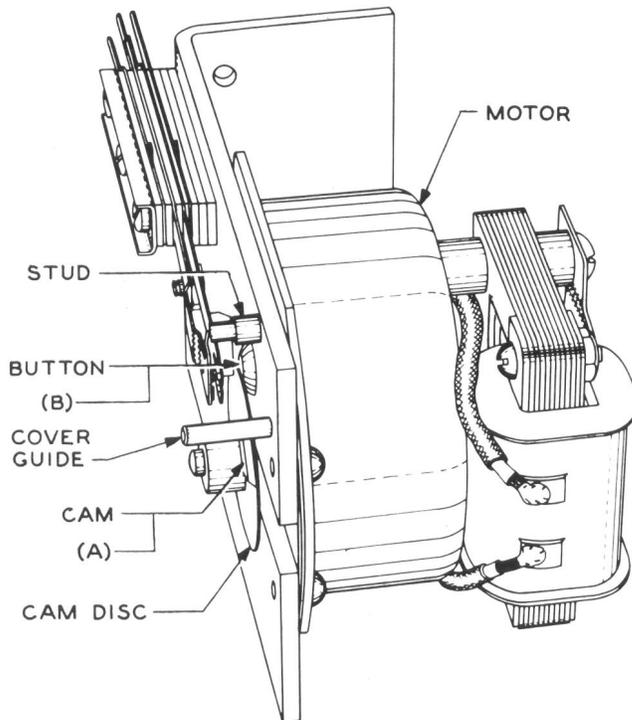
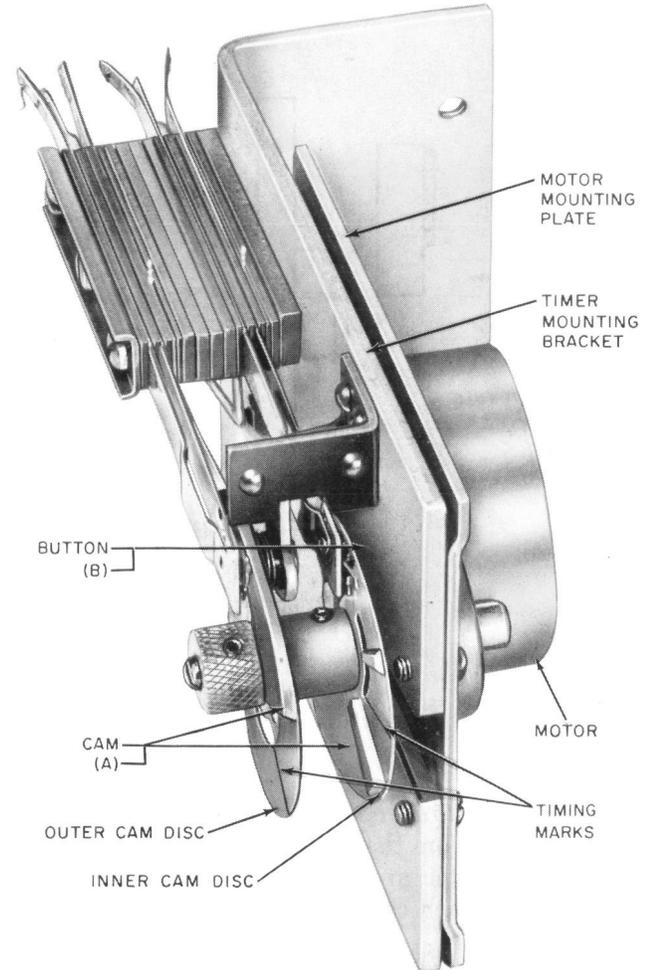

Fig. 1—2A Timer With Telechron Motor
Fig. 2—4A, 4B (Mfr Disc.), and D-171689 Timers With Haydon Motor (4B Illustrated)
- (a) **Fig. 1, (A) and (B); Fig. 2, (A) and (B):** The face of the cam and the button shall be adequately lubricated with KS-16832 L2 lubricating compound. When lubrication is necessary, one dip of the lubricant shall be applied with the KS-14164 brush to the face of the cam and the top of the button.